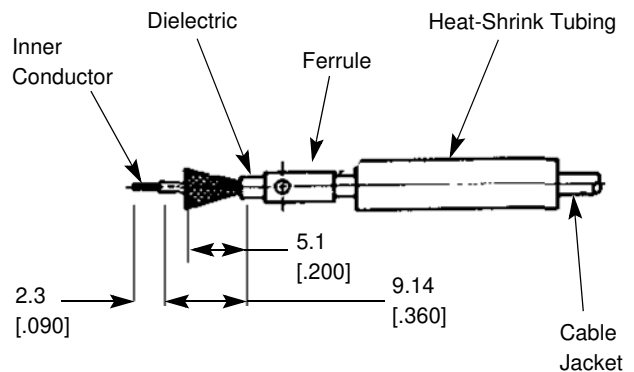

Figure 3
2.1. Preparing the Coaxial Cable End (Figure 3)
3. Trim the braid to the length shown in Figure 3.